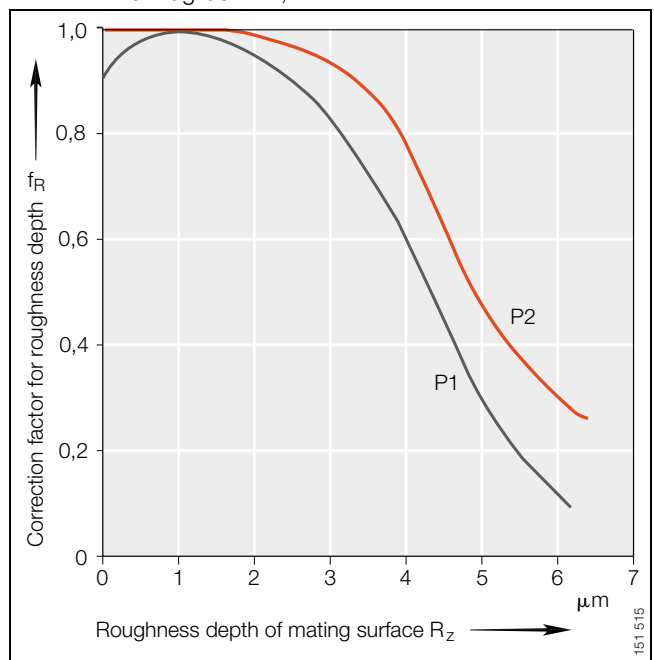

Figure 7 · Correction factor for roughness depth f_R ,
Correction factor for roughness depth, Figure 7, page 15
- Correction factor for roughness depth f_R , Figure 7, page 15